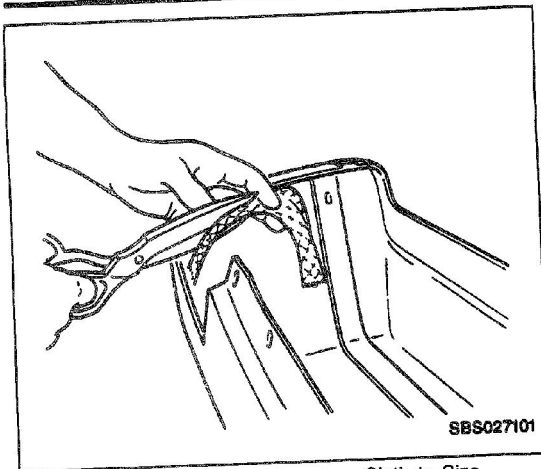

Figure 20—Cutting Fiberglass Cloth to Size
3. Cut a piece of fiberglass cloth large enough to overlap the break 38 to 51 mm (1.5 to 2.0-inches) (Figure 20).